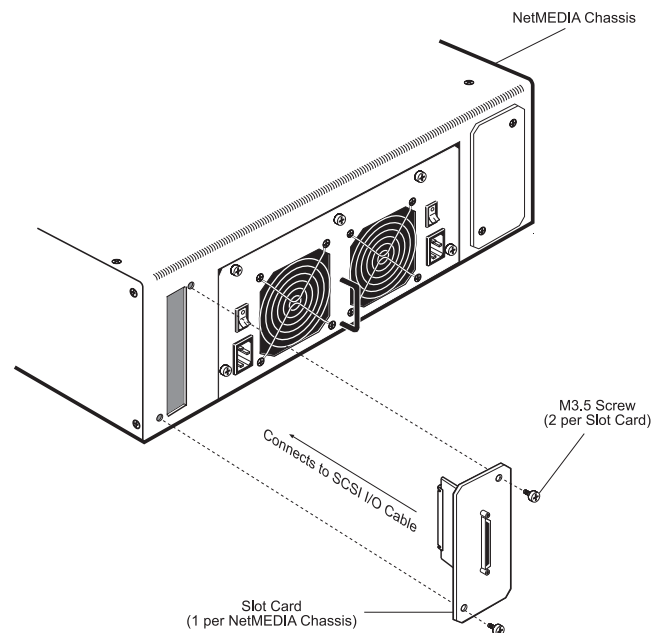

Figure 4: NetMEDIA Slot Card Removal
4. Remove the two (2) M3.5 screws that secure the slot card to the NetMEDIA chassis as shown in Figure 4. After the screws are removed, carefully remove the slot card. The slot card will be attached to the internal SCSI I/O cable.